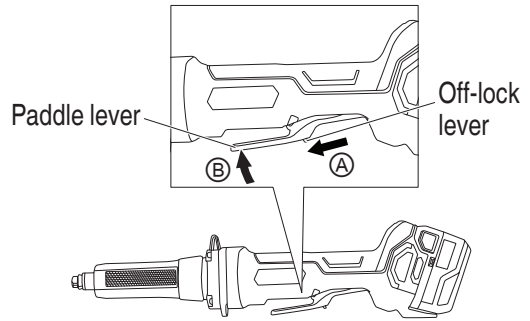

Fig. 13
## <GP18DB> (Fig. 13)
To switch on, slide the off-lock lever in the direction of (A) and press the paddle lever in the direction of (B) as shown in Fig. 13. Release the paddle lever to switch off.